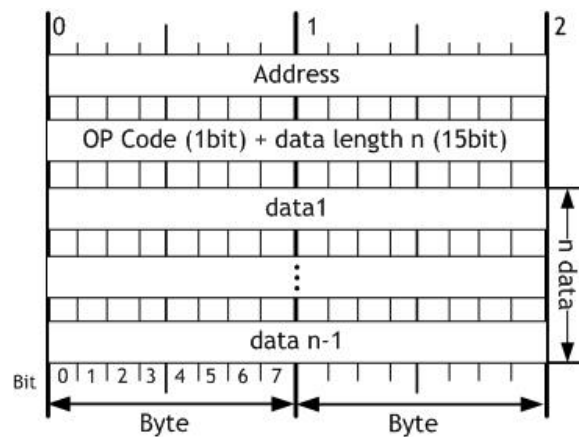
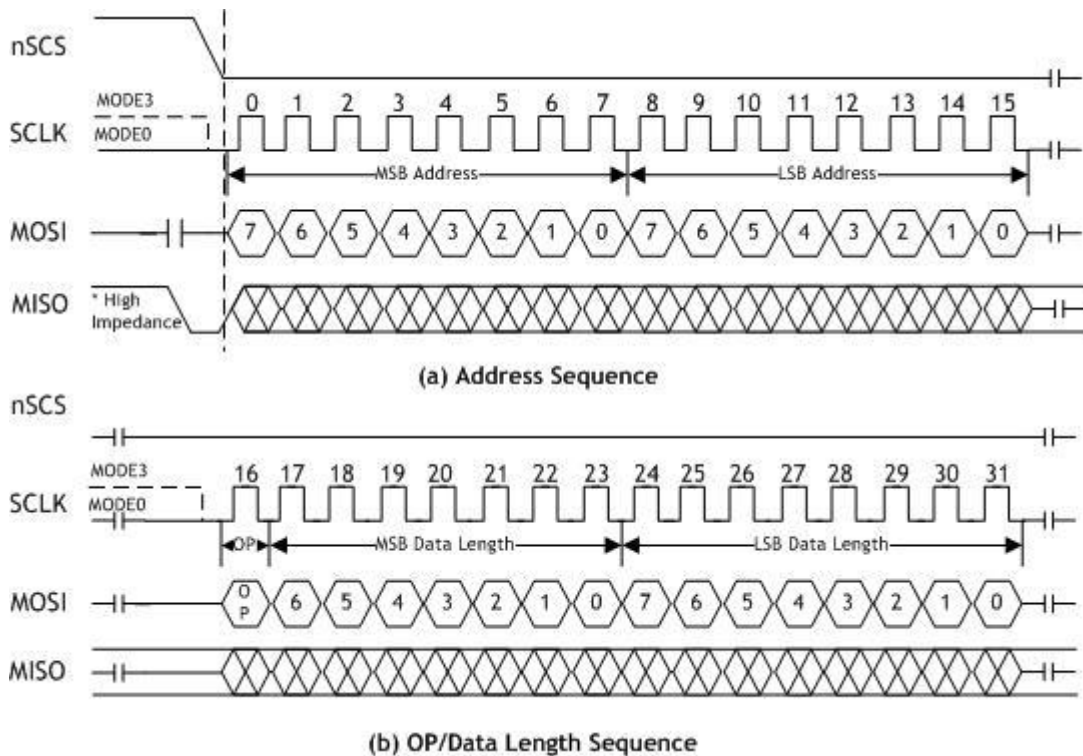

Figure 19 W5200 SPI Frame Format
Figure 20 Address and OP/DATA Length Sequence Diagram
The READ Processing Sequence Diagram is shown in Figure 20. The READ processing is entered by driving CSn low, followed by the Address, the OP code, the Data Length and the Dummy data byte on MOSI. And then W5200 read the data byte on MISO. The Address, the OP/Data Length Sequence Diagram and the Data are shown in Figure 19. The OP code (OP) is defined type of the READ OP and WIRTE OP. On OP = 0, the read operation is selected. Otherwise, On OP = 1, the write operation is selected.